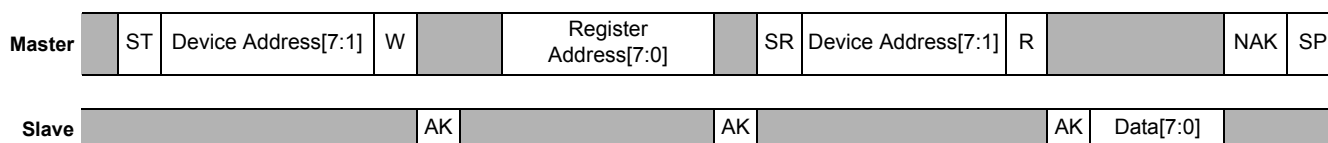

Figure 10. Single-Byte Read timing (I²C)
1. The transmission of an 8-bit command begins on the falling edge of SCL. After the eight clock cycles are used to send the command, note that *the data returned* is sent with the MSB first after the data is received. Figure 10 shows the timing diagram for the accelerometer 8-bit I²C read operation.
2. The Master (or MCU) transmits a start condition (ST) to the MMA8653FC [slave address (0x1D), with the R/W bit set to “0” for a write], and the MMA8653FC sends an acknowledgement.
4. The Master (or MCU) transmits a repeated start condition (SR) and then addresses the MMA8653FC (0x1D), with the R/W bit set to “1” for a read from the previously selected register.